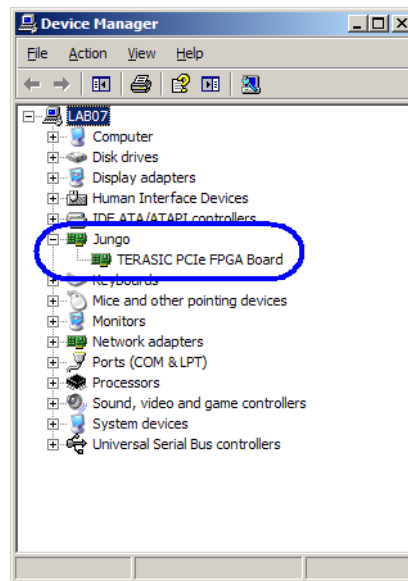

Figure 6-11 Device Manager
5. Once the driver is successfully installed, users can view the device under the device manager window shown in Figure 6-11.